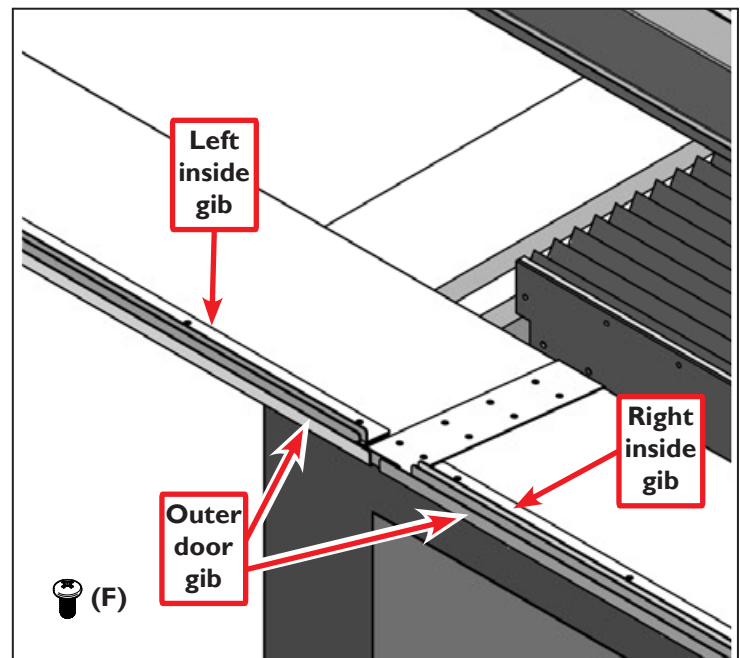

Figure 20
48. Stack the left inside door gib (E.30) onto the outside door gib (E.32) as shown in **Figure 20**. Loosely fasten with (F) screws along the center of the gibs.
49. Stack the right inside door gib (E.31) onto the second outside door gib (E.32) as shown in **Figure 20**. Loosely fasten with (F) screws along the center of gibs.